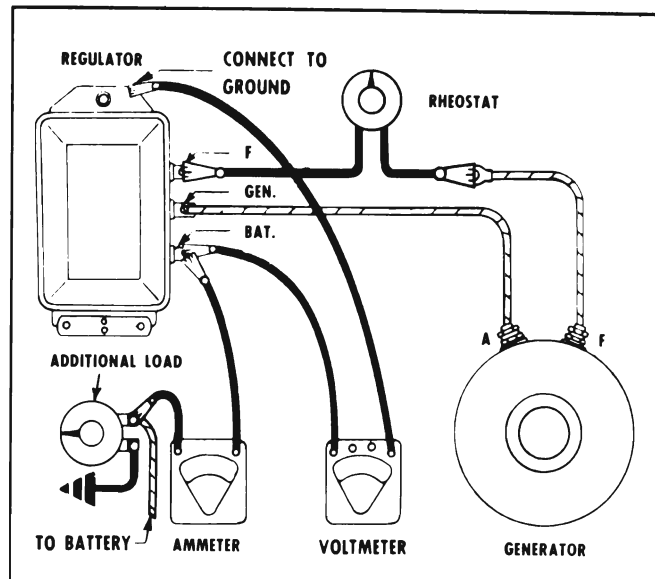

Figure 10-19—Testing Current Regulator
4. Connect a variable load such as a carbon pile either across the battery or from the charging circuit to ground. See Figure 10-19. Turn control knob to position for lowest load (open circuit).